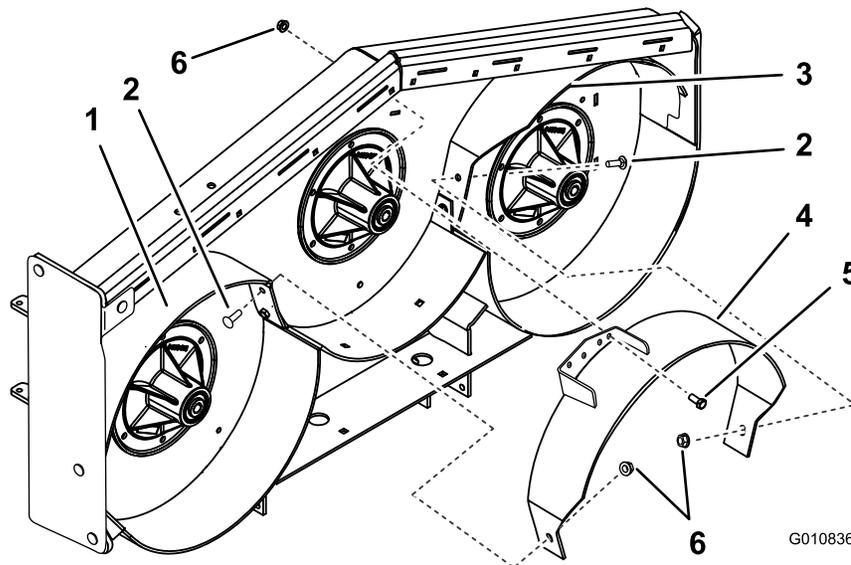

Figure 12
10. Loosely install the center baffle to the left baffle with 1 carriage bolt (3/8 x 1 inch) and 1 flange nut (small flange) (3/8 inch) as shown in Figure 12.
11. Loosely install the center baffle to the right baffle with 1 carriage bolt (3/8 x 1 inch) and 1 flange nut (small flange) (3/8 inch) as shown in Figure 12.
1 flange nut (small flange) (3/8 inch) as shown in Figure 12.